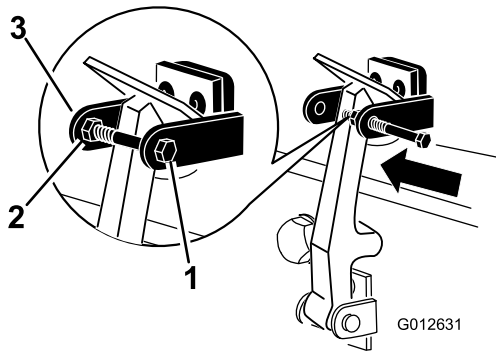

Figure 6
8. Screw the bolt into the other arm of hood-lock bracket to lock the latch in position (Figure 6).